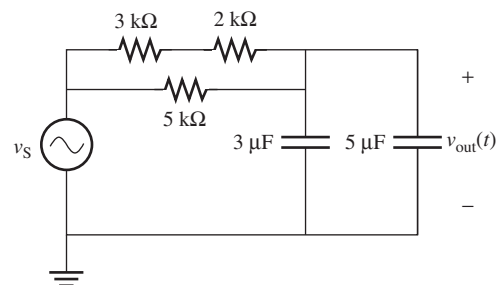

FIGURE P7.4 Circuit for Problem 7.4.
7.4 (A)* Find the transfer function for the circuit in Figure P7.4.